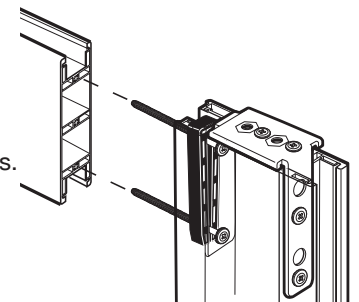

Figure 6B
Insert two small screws into the oval holes on top of the U bracket and secure to the top of the stile. Take 2 small screws and secure into the oval hole in the outside of U bracket (G). This will be the outside of the stile. See Figure 6B